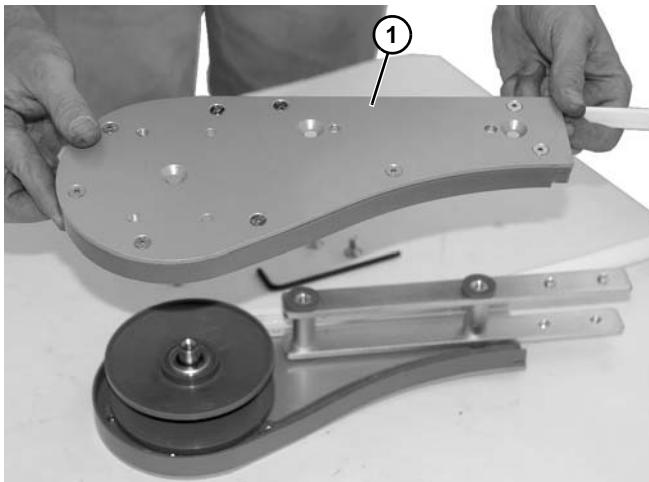

Figure 184
8. Remove the head plate (Figure 184, item 1) from the idler end.